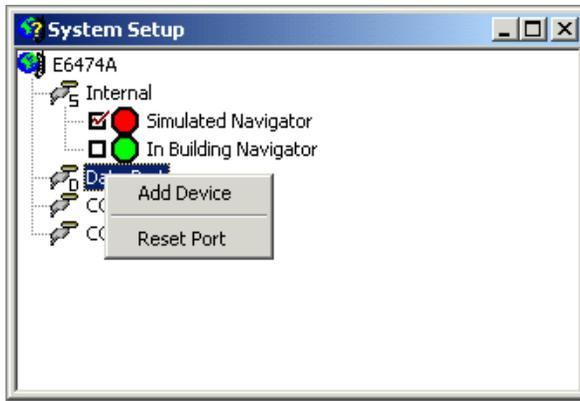

Figure 44 Adding a data device
- 1 Right-click on the Data Port. A pop-up menu appears, as shown in Figure 44.